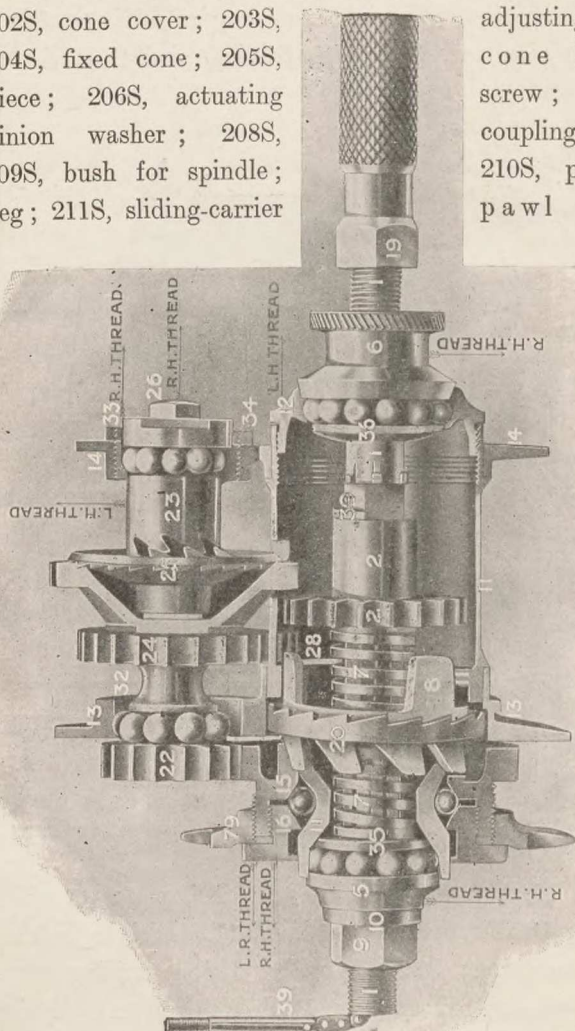

Fig. 79.—Pedersen "Three-speed" Gear
**The Pedersen "Three-speed" Gear** (shown in Fig. 79) gives a 50 per cent. rise from the middle, or normal, to high, and a  $33\frac{1}{3}$  per cent. drop from the middle to the low. Every bearing is an adjustable ball bearing. The parts referred to by the numbers in Fig. 79 are as follow: 1, main central spindle; 2, sliding spur wheel and sleeve; 5, right-hand cone; 6, left-hand adjusting cone; 7, coil spring; 8, ring with three studs; 11, hub shell with internal teeth; 13 and 14, spoke flanges carrying ball-race cups; 15, main spur wheel; 16, main spur wheel cup ring; 20, double clutch ring, having ratchet teeth on both sides; 22, pinion, solid, with its spindle; 23, clutch and ball-race combined; 24, double spur wheel; 25, taper clutch driving 24; 28, pinion or change wheel; 33, cup; 34, lock ring, with right-hand thread; 39, hook; 79, chain-wheel pinion.